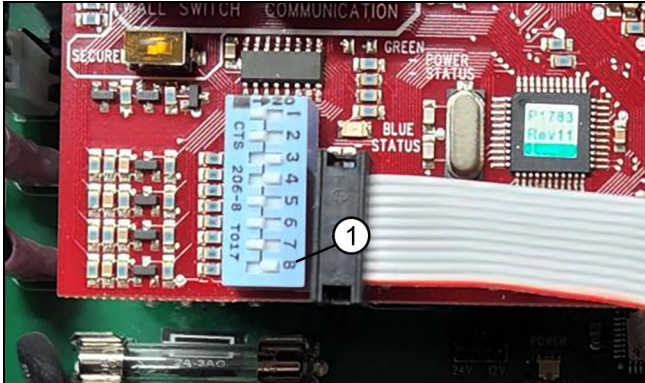

Figure 53
2. Open the control box and flip dip switch 8 to the right. See Figure 53.